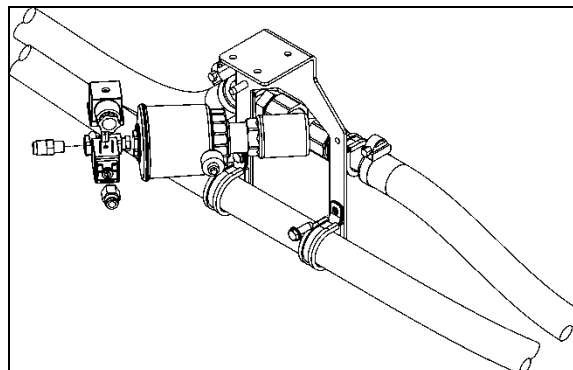

FIGURE 74: DRIVER'S UNIT HOT WATER PNEUMATIC VALVE ASSEMBLY
The flow of hot water to the driver's unit heater core is controlled by a normally-open (NO) pneumatic valve like. The valve, located at the ceiling of the spare wheel compartment (Figure 74), is designed so that the pilot solenoid valve, which is part of the assembly, opens and closes a port which directs air pressure to the actuator casing, thereby opening or closing the valve.
2. Locate the normally open hot water pneumatic valve on the ceiling of the spare wheel compartment (Figure 74), disconnect its wiring connector, and then connect a 24-volt external power source, using jumper cables, to close valve.